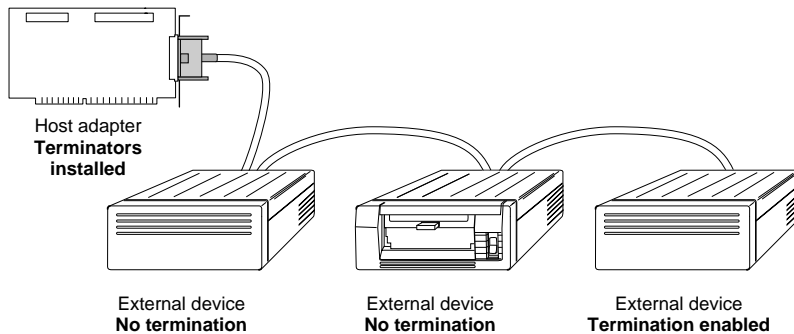

Figure 3-8. Daisy Chaining External SCSI Devices
You can daisy chain up to seven external SCSI devices to the external connector on the host adapter. *Daisy chaining* means connecting multiple devices in a series, as shown in Figure 3-8. A cable runs from the external host adapter connector to the first external device; a second cable connects the first external device with the second external device; and so on.
- 3 Daisy chain other external SCSI devices, if any, to the previous device until all devices are connected, as shown in Figure 3-8.